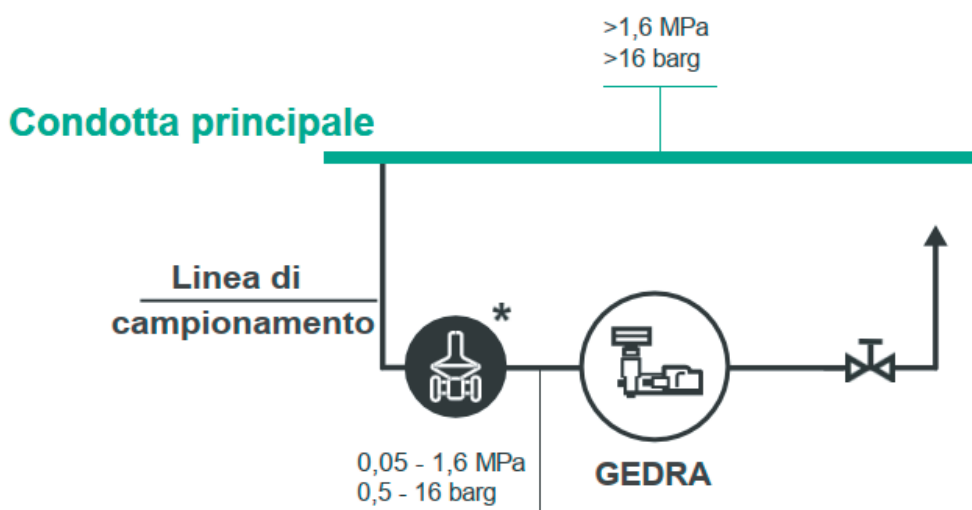

Fig. 4.9. Type 2 Configuration
- Type 2: applicable in the absence of a pressure jump, when a pressure regulator is not provided. This configuration allows the release of the gas into the atmosphere (Fig. 4.9).